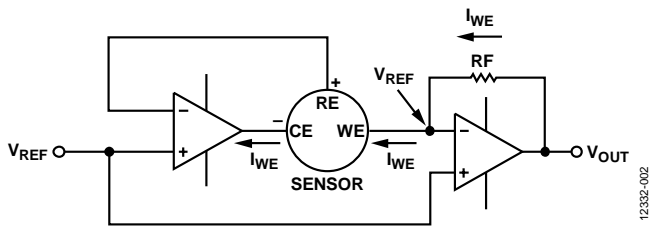

Figure 2. Simplified Electrochemical Sensor Circuit
Figure 2 shows a simplified schematic of an electrochemical sensor measurement circuit. Electrochemical sensors work by allowing gas to diffuse into the sensor through a membrane and by interacting with the working electrode (WE). The sensor reference electrode (RE) provides feedback to Amplifier U2-A, which maintains a constant potential with the WE terminal by varying the voltage at the counter electrode (CE). The direction of the current at the WE terminal depends on whether the reaction occurring within the sensor is oxidation or reduction. In the case of a carbon monoxide sensor, oxidation takes place; therefore, the current flows into the working electrode, which requires the counter electrode to be at a negative voltage (typically 300 mV to 400 mV) with respect to the working electrode. The op amp driving the CE terminal should have an output voltage range of approximately  $\pm 1$  V with respect to  $V_{REF}$  to provide sufficient headroom for operation with different types of sensors (Alphasense Application Note AAN-105-03, *Designing a Potentiostatic Circuit*, Alphasense, Ltd.).